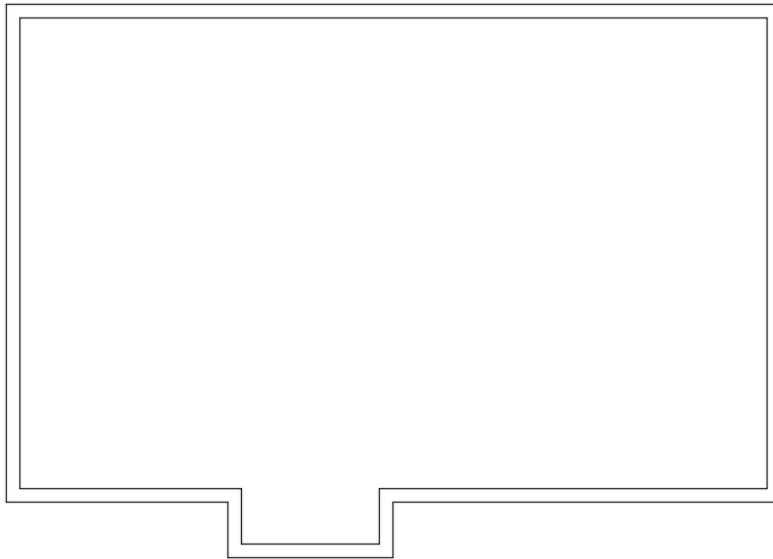

FIGURE 4.10 All line segments are now offset 6" (150 mm) to the inside.
5. Click in a blank area inside the cabin's perimeter. All segments of the polyline are offset 6" (150 mm) to the inside (see Figure 4.10).